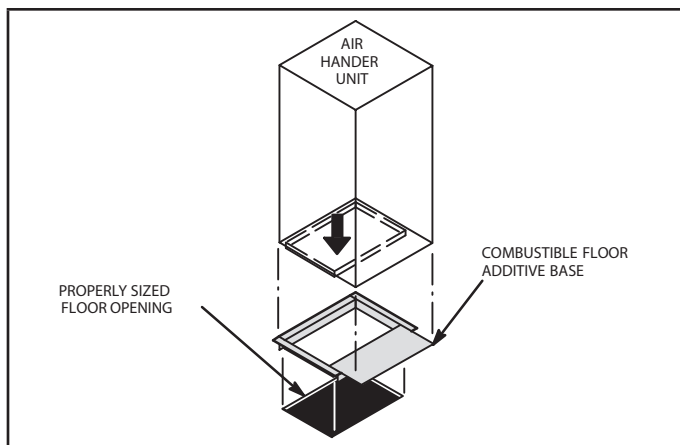

FIGURE 9. Downflow Combustable Flooring Base
- 8 - For downflow installation on combustable flooring, an additive base must be used as illustrated in figure 9 on page 9. See CBA38MV Product Specifications (EHB) for downflow combustable flooring base kits available for this air handler.